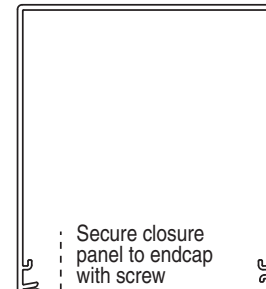

Figure 10
- ① Snap endcap covers onto endcaps.
- ② Place endcaps into back/top portion of wall/ceiling headbox or into pocket extrusion of pocket headbox. Using pre-drilled holes in endcaps, mark the headbox for drilling.
- ③ Drill holes in back or top, depending on whether you will be mounting the headbox to the wall, ceiling or pocket.
- ④ Attach endcaps and wall/ceiling headbox back/top or pocket headbox extrusion to wall, ceiling or pocket using mounting hardware appropriate for site conditions. **The installer is responsible for selecting mounting hardware appropriate for site conditions.**
- ⑤ Install shade (see "Bead Chain Clutch—Small Endcaps" section above).
- ⑥ Attach headbox fascia or closure (see Fig. 10). **Note on fascia style headbox: Surface Headbox fascia is not fully seated until it clicks into place on both ends. Once in place, check for secure fit. If not secure, secure with appropriate fastener (not included).**